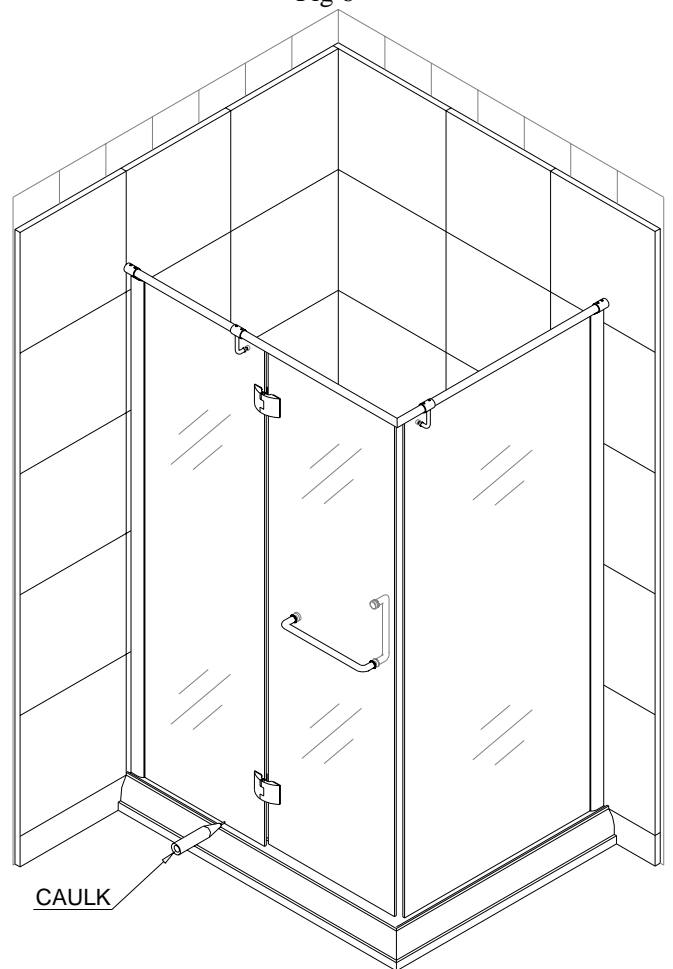

Fig 8
8. Apply silicone sealant along the wall profiles and bottom guide rail (fig 8).